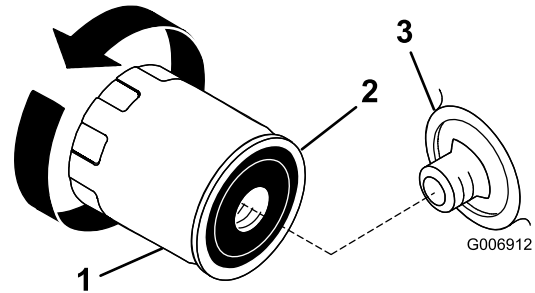

Figure 31
2. Remove the old oil filter and wipe the filter adapter (Figure 31) gasket surface.
3. Apply a thin coat of new oil to the rubber gasket on the new oil filter (Figure 31).
5. Turn the oil filter clockwise until the rubber gasket contacts the filter adapter, then tighten the oil filter an additional 1/2 to 3/4 turn (Figure 31).